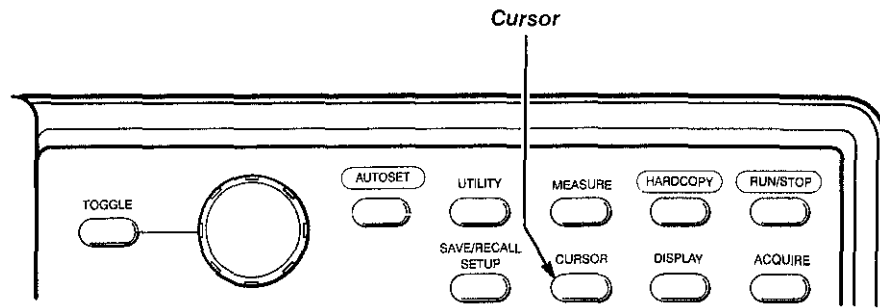
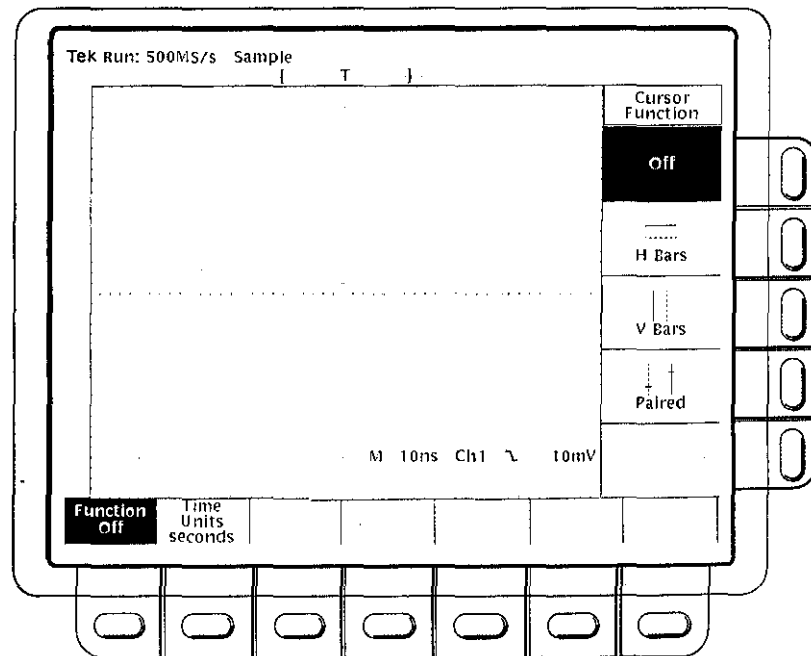

Figure 3-18: The CURSOR Button
Figure 3-19: The Cursor Menu
1. Press the front panel button **CURSOR**, shown in Figure 3-18. The **CURSOR** button calls up the cursor menu, shown in Figure 3-19.